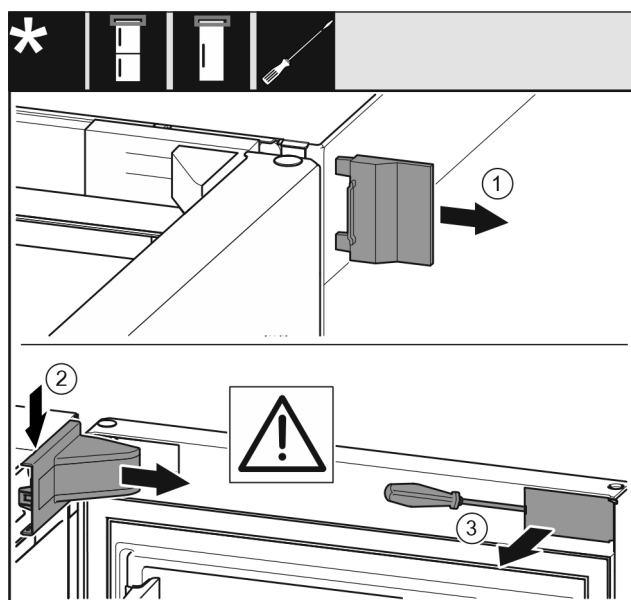

Fig. 8
- Remove the outer cover Fig. 8 (1).
- Snap out the swap bearing block cover Fig. 8 (2) and remove it.
- Use a slotted screwdriver to snap out the faceplate Fig. 8 (3) and swivel it to the side.